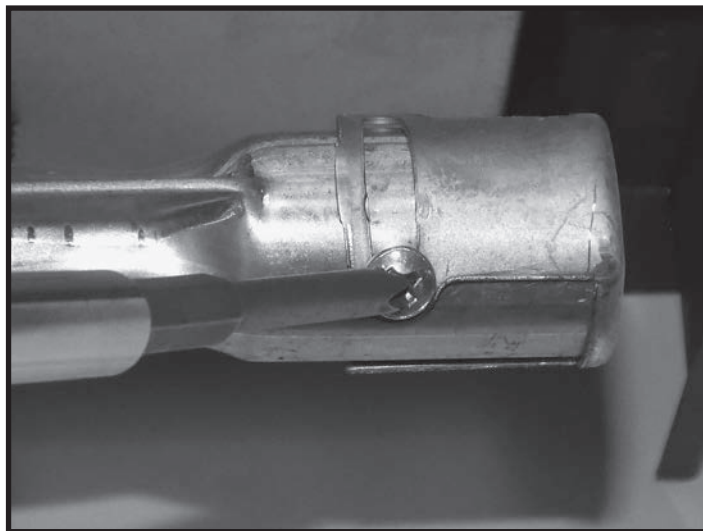
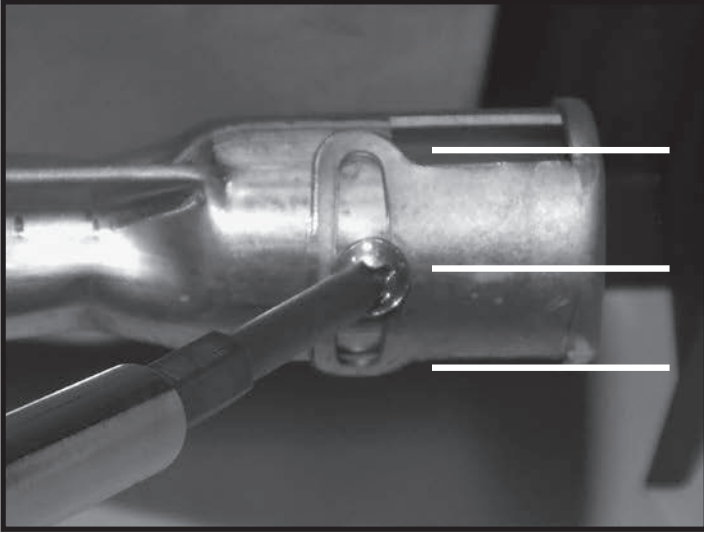

Figure 34: Air shutter fully closed for natural gas.
Figure 35: Air shutter half opened for propane gas.
9. Loosen the primary air shutter screw (Figure 34), open shutter half way and re-tighten (Figure 35).